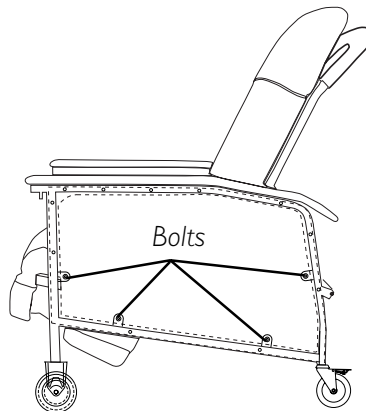
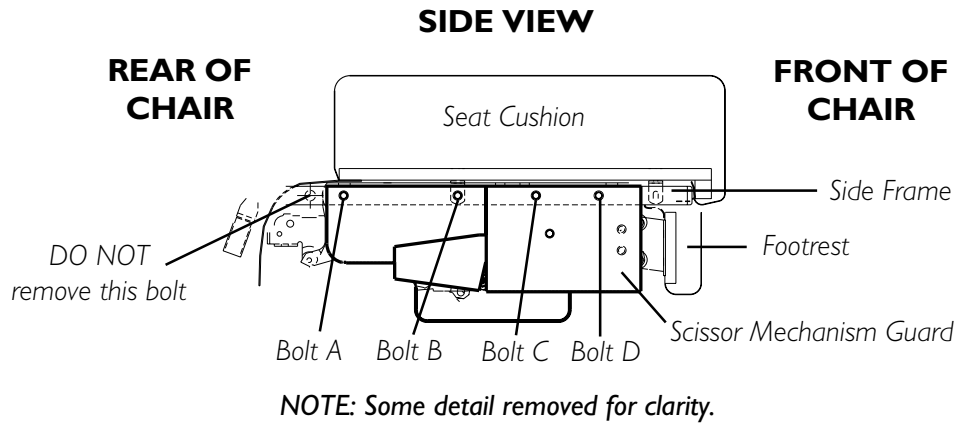

FIGURE 2 - INSTALLING THE SCISSOR MECHANISM GUARD
FIGURE 3 - INSTALLING THE SCISSOR MECHANISM GUARD
INSTALLING SCISSOR MECHANISM GUARD (FIGURES 2 AND 3)
3. Perform one (1) of the following:
- A. **FOR MODEL 6905A MANUFACTURED BEFORE 04/01/2002** - remove the seven (7) rivets securing the side panel to the recliner frame. Refer to DETAIL "A" in FIGURE 2.
- B. **FOR MODEL 6905A MANUFACTURED AFTER 04/01/2002** - remove the eleven (11) bolts securing the side panel to the recliner frame. Refer to DETAIL "B" in FIGURE 2.
- C. **FOR MODELS 6907A AND 6908A** - remove four (4) bolts securing the side panel to the wheelchair frame. Refer to DETAIL "C" in FIGURE 2.
4. Remove four (4) existing bolts A, B, C and D from side frame as shown in FIGURE 3.
5. Position scissor mechanism guard against the side frame with the folded edge down. Refer to FIGURE 3.
8. Perform one (1) of the following:
- B. **FOR MODEL 6905A BUILT AFTER 04/01/2002** - Secure the side cover to the recliner frame with the eleven (11) bolts. Refer to DETAIL "B" in FIGURE 2.
- C. **FOR MODELS 6907A, 6908A** - Secure the side cover to the recliner frame with the four (4) bolts. Refer to DETAIL "C" in FIGURE 2.